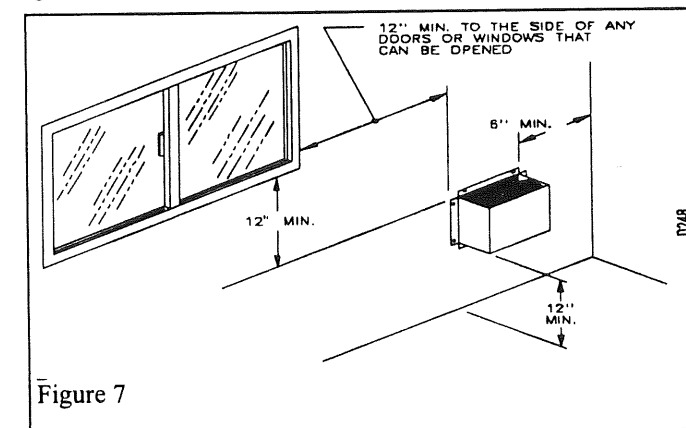

Figure 7
The final position of your appliance depends on the location of the vent termination in relation to the clearances that must be observed as shown in figures 7 and 8.
3) All pipe clearances must be kept with in minimum requirement or grater see figure 7.